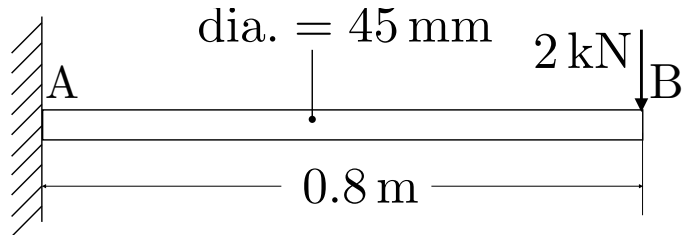

Fig. 5: A Cantilever Beam Subjected to a Point Load
5. Fig. 5 shows a cantilever beam loaded within the elastic limit of the material it is made of. Use the *method of direct integration* to obtain a mathematical expression for $y(x)$, the deflection of the beam as a function of its length. Assume the Young's Modulus of the material of the shaft $E = 220 \text{ GPa}$.